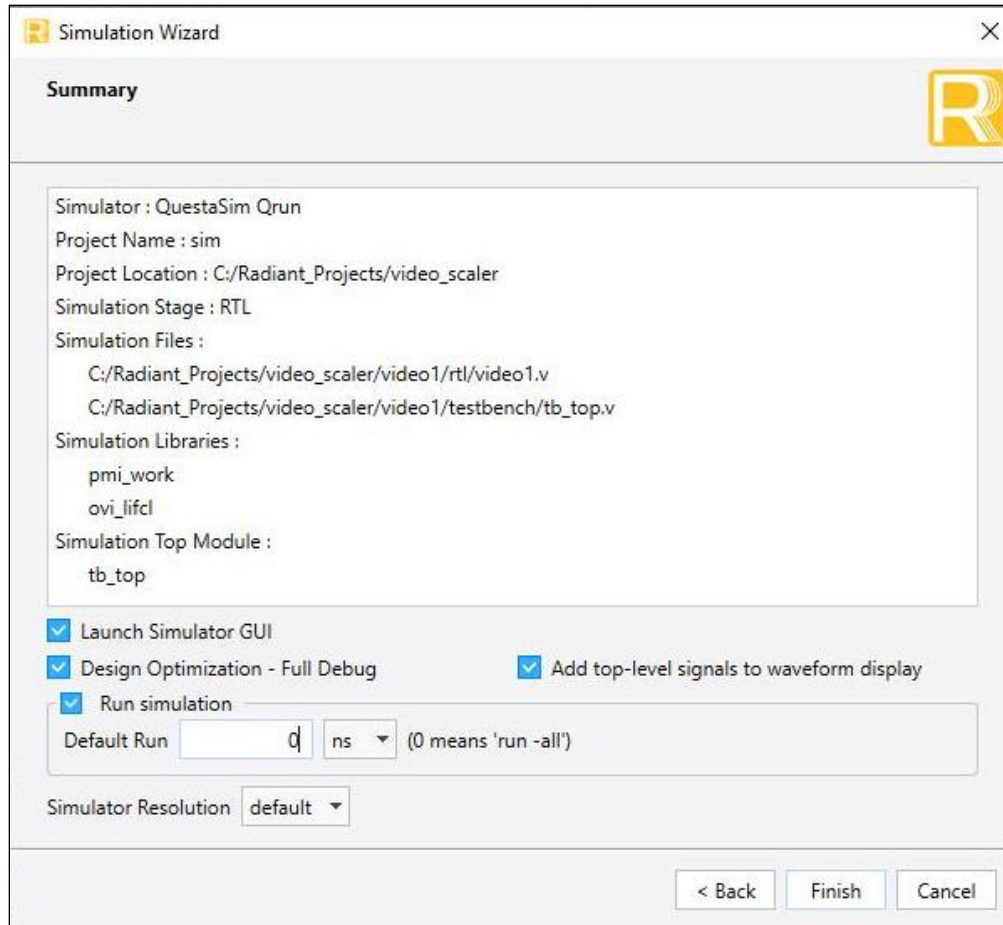

Figure 6.6. Run Simulation Value of 0 for Run All
3. Change the simulation time to **0 ns**, which means run -all. See Figure 6.6.